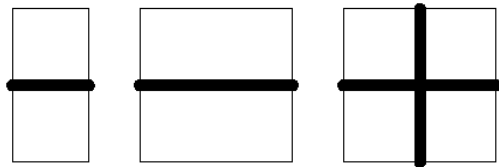

Fig.1. Example track
2.2.1 The track is laid out using white 19 mm tape (Electrical Tape) on a matt black base, typically MDF and blackboard paint. Tracks may consist of small tiles or large boards. Refer to Fig. 1 for the range of shapes that will be used to build the track. Fig. 2 is an example of a possible competition racetrack.